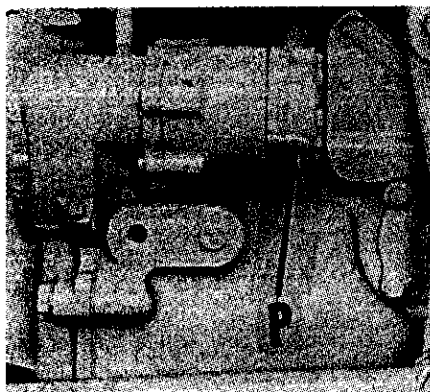

Fig. 371—Connect pressure gage (see Fig. 373) at plug (P) opening in piston type hydraulic pump.
Fig. 373—View showing pump relief pressure check set up. Connect gage to plug (P—Fig. 371) on models with piston type pump or to plug (3—Fig. 372) on model 4000 with gear type pump.
343. On models with piston type (engine driven) hydraulic pump, refer to Fig. 371 and remove plug (P) from rear cover of hydraulic pump.